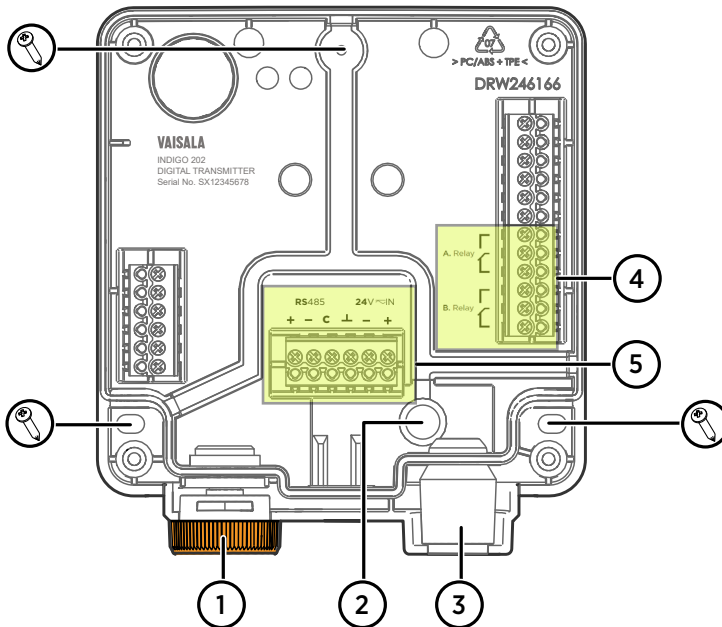

Figure 7 Indigo 202 transmitter base main parts and mounting screw positions
5. Place the transmitter base on the installation surface and mount it with 3 screws. See the screw positions in Figure 7 \(page 18\).